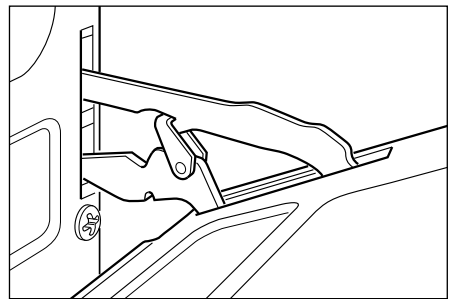

Fig.46c
- 3 Lift the oven door slightly. The notch on the bottom of the hinge will disengage (Fig. 46c).